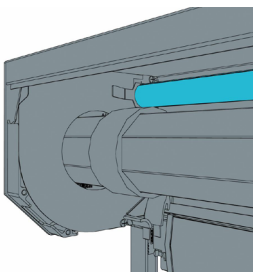

Fig. 21. Installing the left part of the tube with insect screen
- insert the left part of the tube with projecting assist and push-up spring into the hole in the **M-BR-L** bracket or into the **GPU** safety plate (fig. 21);